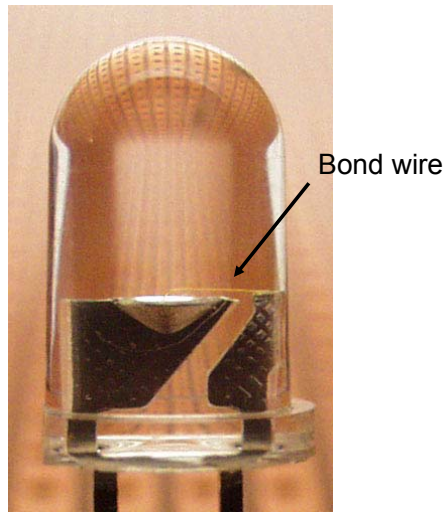

Figure 7: LED close-up
- (1) You will begin making your own communications link by first connecting the LED to one end of the fiber. By doing so you are creating the signal end of the link. **(Never connect the LED directly to the battery or the signal generator without the resistor! You will push too much current through it.)**
- (2) Using the rough sand paper, sand down your LED until the diode itself is visible. A close up picture of the LED is shown in Figure 7. You will sand down the top plastic part so that you get a flat surface and stop before you expose the bond wire. The bond wire may be difficult to see (try looking for it